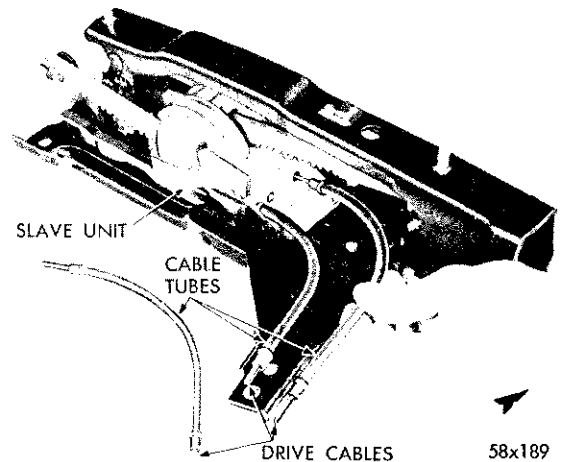

Fig. 67—Installing the Cable Tubes in the Slave Unit
- (1) Place the three left cable tubes into the left slave unit (Fig. 67).
- (2) With the shortest tube on the inside and longest on the outside, install the flexible cables in the tubes. Make sure the cables seat in the slave unit.
- (3) Position the drive unit on the left side tubes. Make sure the flexible cables seat in the slot in the drive unit.
- (4) Bolt the drive unit to the guide bracket.
- (5) Place the right side flexible cables in the right side tubes.
- (6) Position the left guide and drive assembly on the right side tubes. Make sure the cables seat in the drive assembly.
- (7) Install the right side tubes retainer plate.
- (8) Bolt the left guide assembly to the floor.
- (9) Connect the wire to relay and check the operation of the seat.